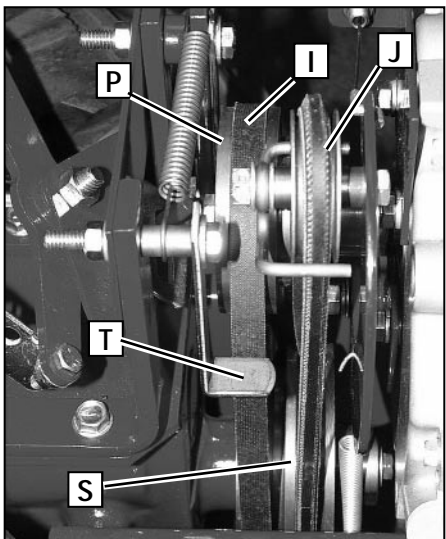
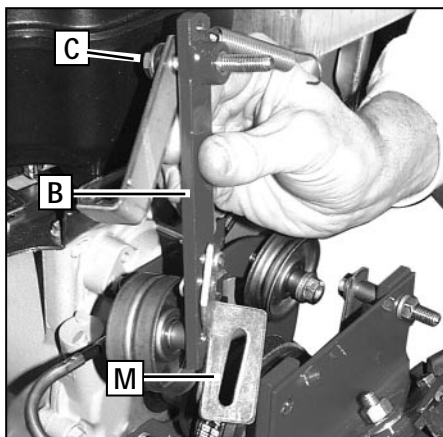

Figure 5-11: View of belts and pulleys. Only the upper half of the transmission pulley (S) is shown.
Figure 5-15: Remove forward idler bracket assembly.
The tension on a new forward drive belt (I, Figure 5-11) should be checked after the first two (2) hours of operation. Thereafter, check the tension after every ten (10) hours of operation.
The reverse drive belt (J, Figure 5-11), because it is used more sparingly, will probably not require an initial tension
The forward drive belt (I, Figure 5-11) is driven by the engine drive pulley (P). When the Forward Clutch is engaged, it puts tension on the forward idler pulley (R) which tightens the belt between the engine drive pulley and the transmission drive pulley (large pulley located below the engine drive pulley). The transmission drive pulley then turns the main drive shaft inside the transmission.
2. First remove the reverse drive belt (J, Figure 5-11) by following the "Removing the Reverse Drive Belt" instructions in this Section.
4. Remove the forward idler bracket assembly (B, Figure 5-15) by removing the nut and lockwasher from the screw (C). You may need to push the screw part way through the bracket while removing the assembly. Do not remove the flat washer and bushing from the screw. **NOTE:** Before removing the assembly, lift the forward adjustable link (M, Figure 5-15) off the link adjusting pin.
4. Reinstall the forward idler bracket assembly (B, Figure 5-15) as follows:
- b). Reinstall the forward idler bracket assembly using the screw (C, Figure 5-15), lockwasher and nut removed previously. Be sure that the bushing and flat washer are on the screw before inserting it through the bracket arms. Tighten the screw securely. **NOTE:** Check that the belt is positioned to the inside of the forward idler pulley (see R, Figure 5-11) and both belt guides (T).
The reverse drive belt (J, Figure 5-11) is driven by the engine drive pulley (P, Figure 5-11). When the Reverse Clutch Control is engaged, it puts tension on the reverse drive pulley which tightens the belt between the engine drive pulley and the transmission drive pulley (large pulley located below the engine drive pulley). The transmission drive pulley then turns the main drive shaft inside the transmission.